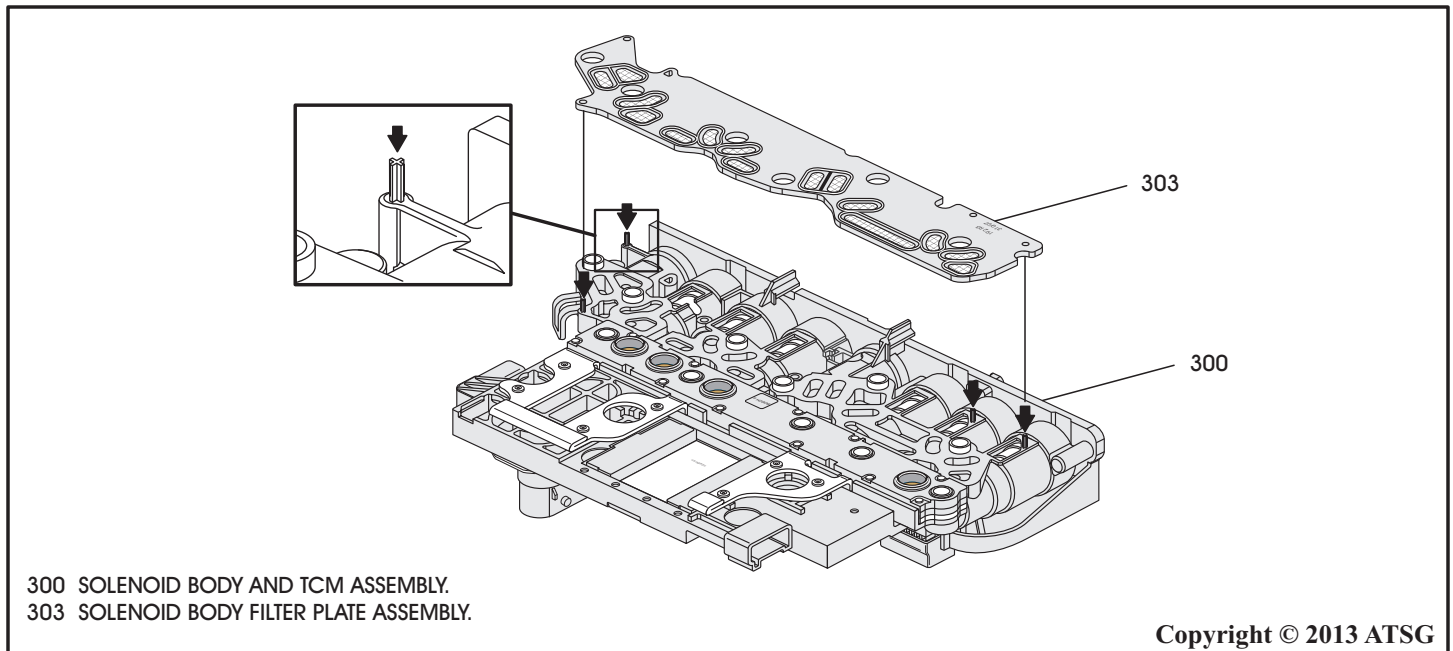

Figure 166
6. Install a new filter plate assembly, as shown in Figure 166, over the four locating pins and fully seated against the solenoid body.